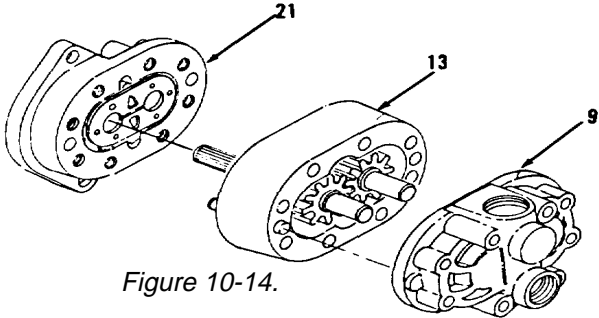

Figure 10-14.
- 5. Separate back plate (9), body (13) and front plate (21, Figure 10-14).